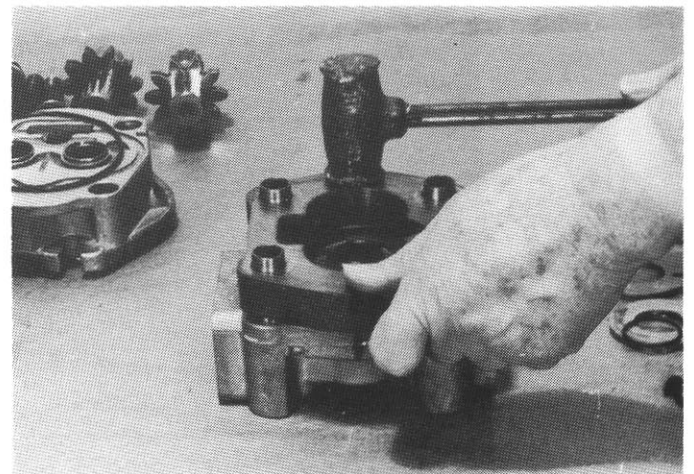

Fig. 15
19. With matching marks made in step 2 toward you, and the four cast recesses in the outer edge of gear plate toward cover plate, line up dowels. Tap gear plate lightly until it is against O-ring in cover plate. (Fig. 15)